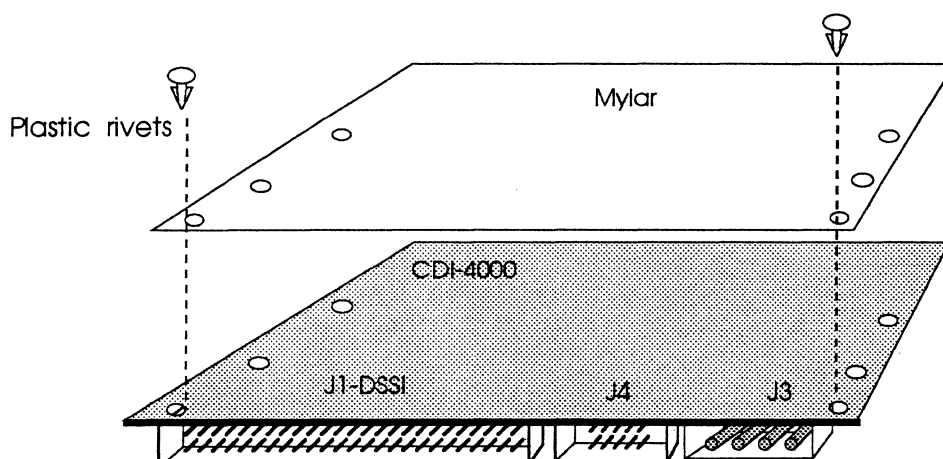

Figure 7-16: Connecting the CDI-4000 and mylar
- 1 Attach the mylar insulator on the solder side CDI-4000 using plastic rivets in the front corners of the CDI-4000 as shown in Figure 7-16.